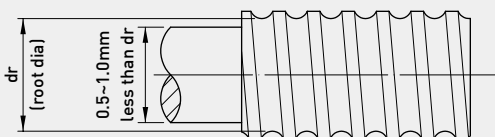

Fig 4.7 Special arrangement for the end journal of an internal recirculation screw
- (8) If you select an internal recirculation type or an endcap recirculation type ballscrew, one end of the ball thread must be cut through to the end surface. The adjacent diameter on the end journal must be 0.5 ~ 1.0 mm less than the root diameter of the balltracks (Fig 4.7).